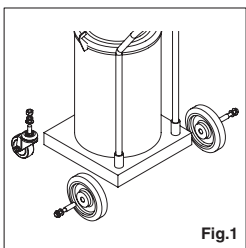

Fig.1
1. Follow the guidance to assemble the caster and wheel. (Fig.1)